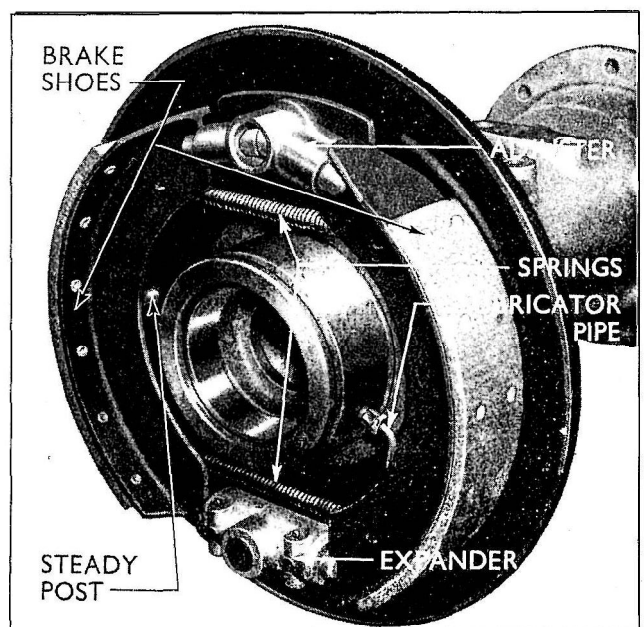

Fig. 229
- 1 Locate the retraction springs in their respective holes in the shoes, ensure that the tappets are free to move in their housings, apply a little zinc oxide grease to each end of the shoes where they come into contact with the adjuster and the expander, then mount the shoes with the cut-away portion of the shoe to the adjuster tappet (see Fig. 229).